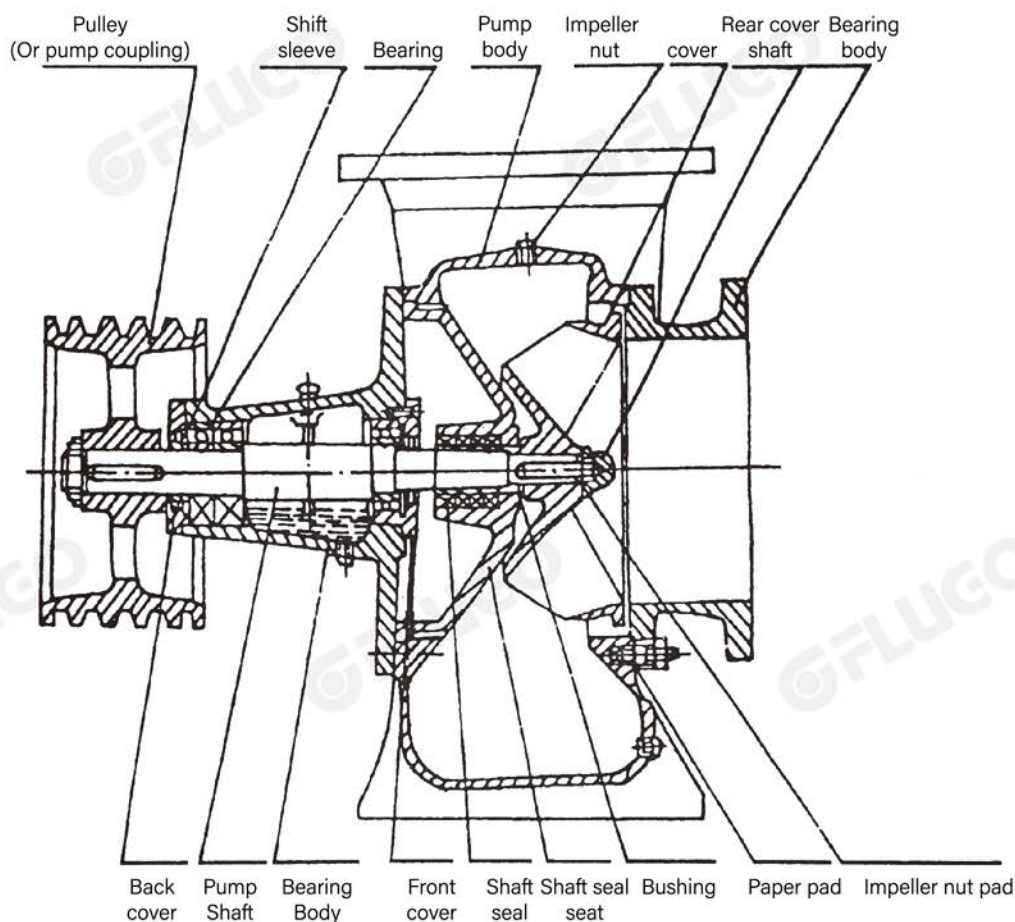

Figure 1. Structure diagram of 100~150HW type mixed flow pump
1. HW-S type mixed flow pump is mainly composed of main parts such as pump cover, impeller, pump body, pump shaft, bushing, packing seat and bearing body (bearing frame). It adopts the structural form of front and rear door opening (see Figures 1, 2, and 3).